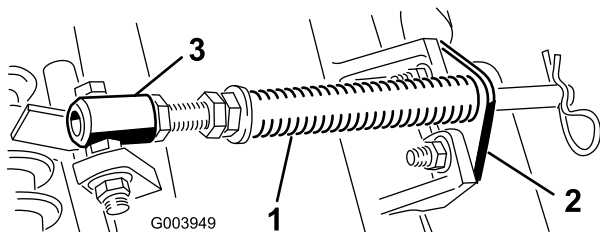

Figure 5
- A. Remove the 2 carriage bolts and nuts securing the rod bracket to the cutting-unit tabs (Figure 5).
- B. Remove the flange nut securing the spring tube bolt to the carrier-frame tab (Figure 5). Remove the assembly.